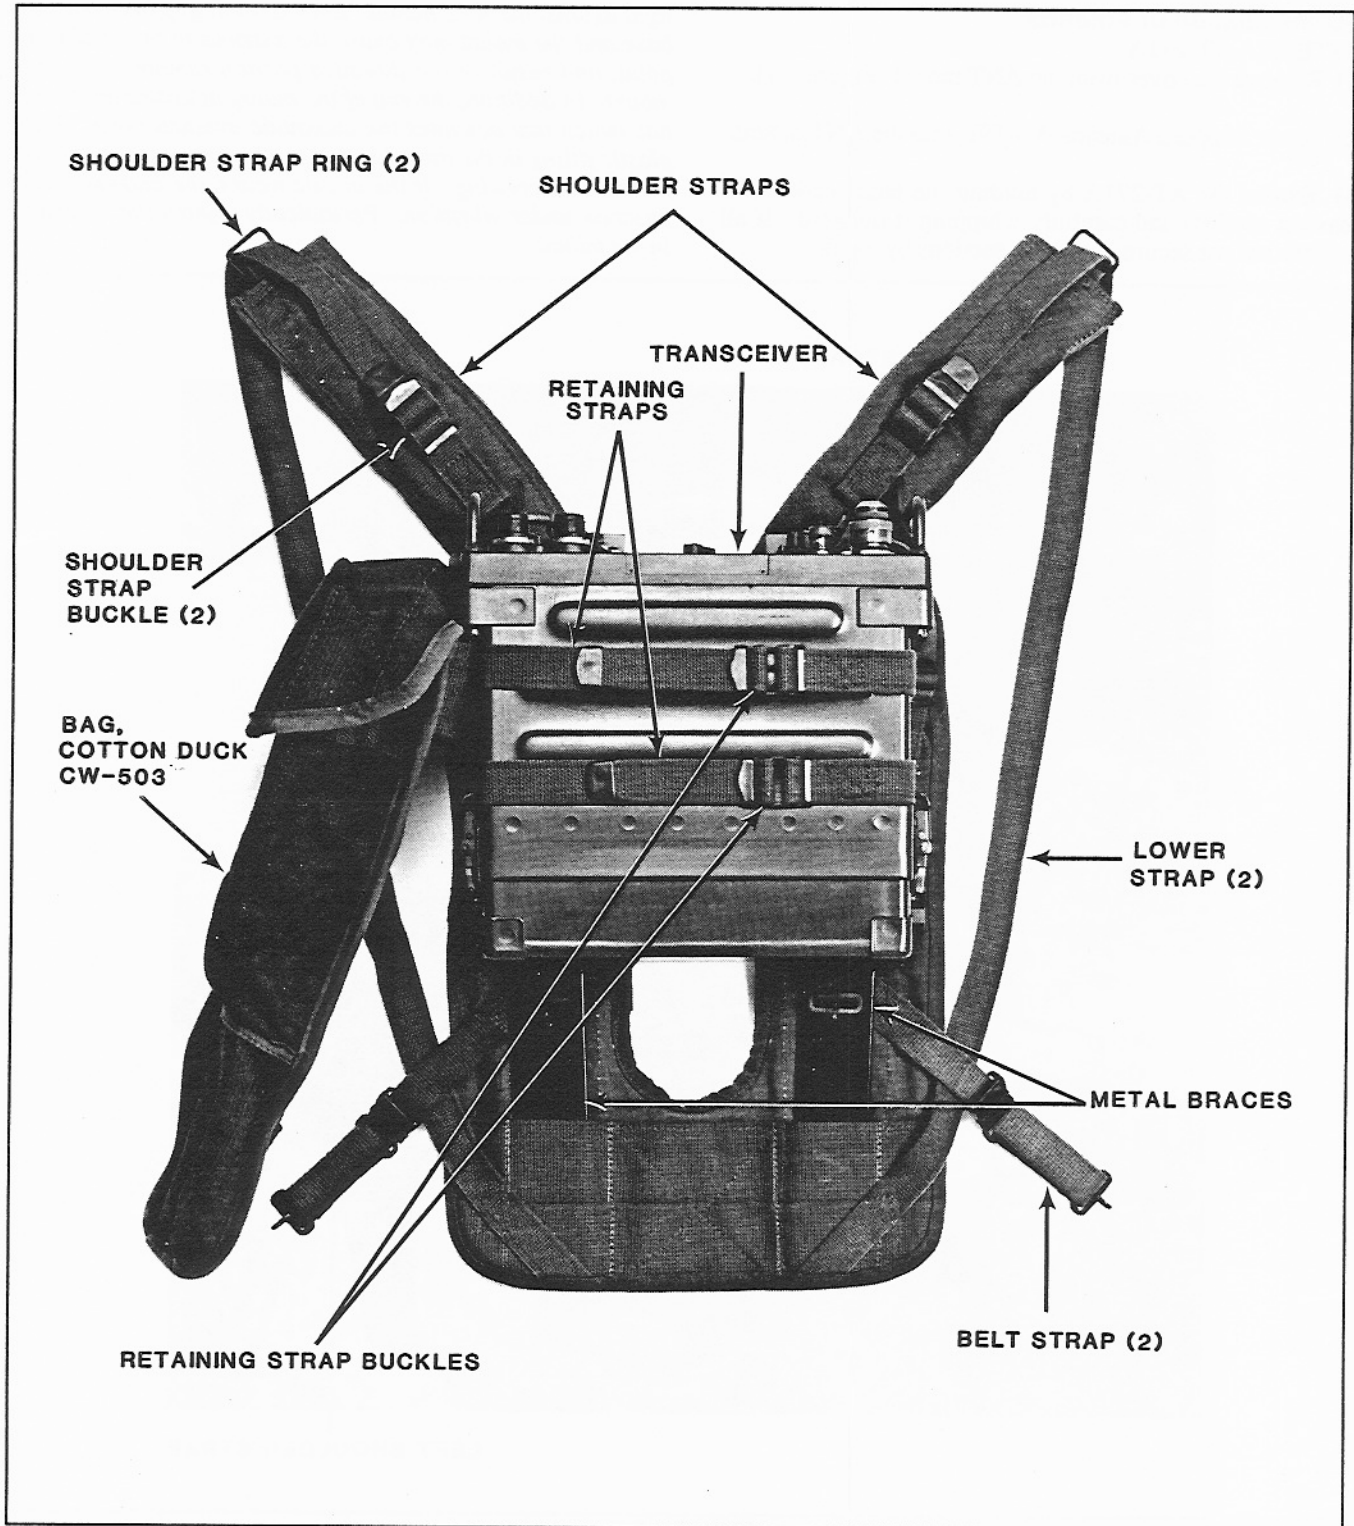

FIGURE 2-2.
2-5. Assembly and Installation for Man-Pack Operation (Figure 2-2)
(3) Place the harness, with the transceiver attached, on the operator's back. Place the shoulder straps over the operator's shoulders.
(4) Feed the end of the lower strap through the right shoulder strap ring. Feed the metal tip of the strap from below, through the center slot in the buckle, and then down through the end slot. (Figure 2-2).